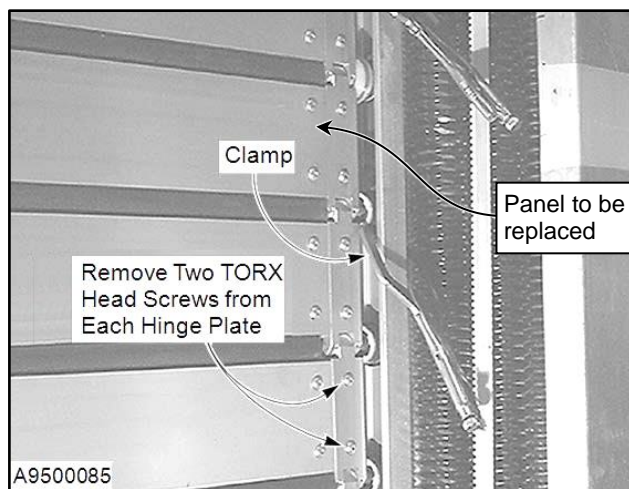

Figure 72
4. Position clamps along both edges of the door above and below the panel to be removed to prevent unexpected door movement. (See Figure 72)
5. At the ends of the door panel to be replaced, remove the two Button Head TORX® screws securing each hinge plate to the panel. (See Figure 72)